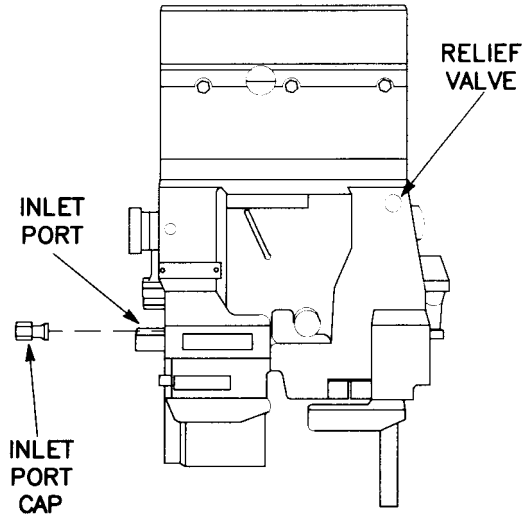

Figure 3-61 Head Assembly
(3) Head Assembly (fig. 3-61). Refer to para 3-13.i.(1) for procedures.
(2) Objective Assembly. Refer to para 3-14.c.(1) for procedures.
d. Articulated Telescope, M127A1 (fig. 3-61).